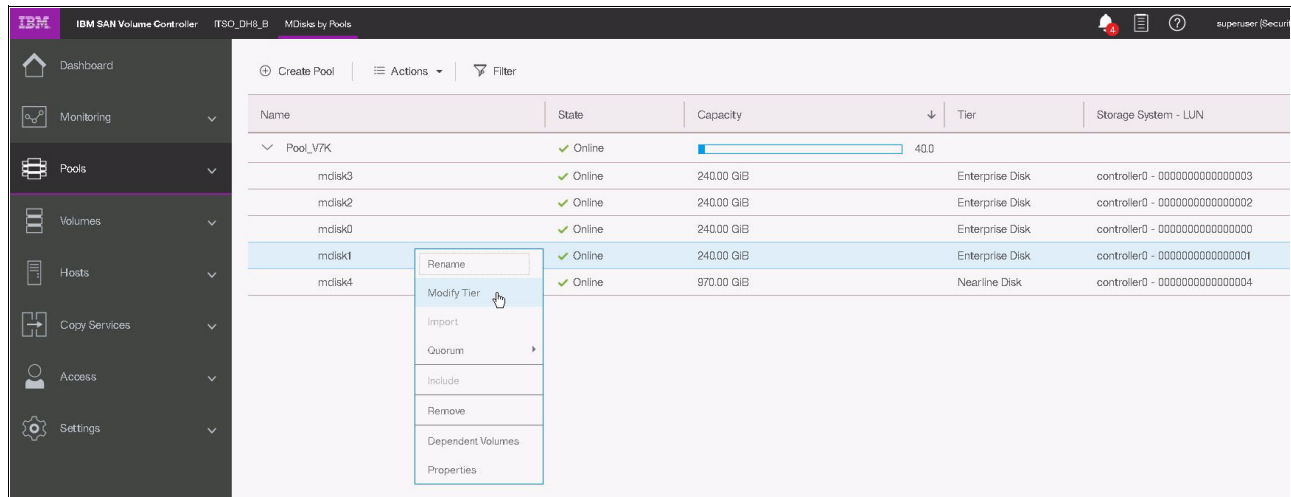

Figure 4-27 Changing the MDisk tier
2. Right-click the MDisk and select **Modify Tier** (see Figure 4-27).